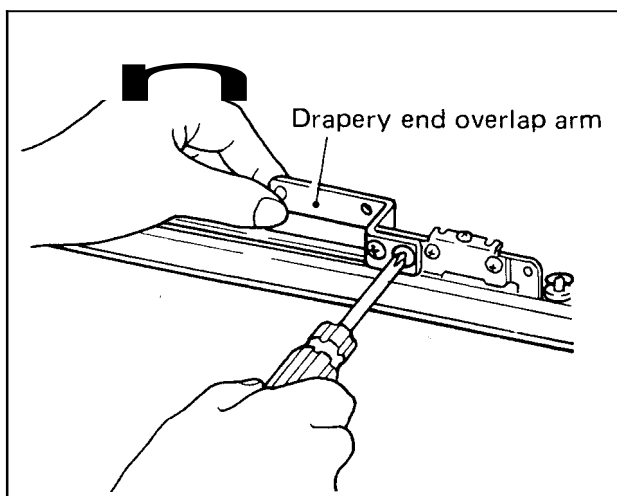

Fig. 22
9. The motor is designed to be hidden behind the drapery stack. Determine on which side the draperies will stack when open (right or left). The rod assembly comes set up for right stacking draperies. For left stacking draperies it is necessary to reverse the overlap arm on the closing plate. Remove the two screws that fasten the arm to the closing plate (Fig. 22), switch it to the opposite side and reattach. (Fig. 23) This allows the motor to be on the left side of the track behind the draperies when open.